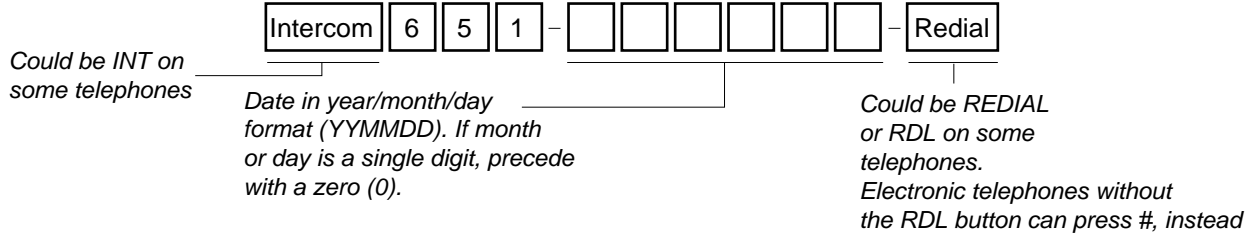

FIGURE 1-4—SETTING SYSTEM DATE
4.32 Anytime after initialization, the time and date can be set. This is not accomplished from the programming station, but rather from the digital or electronic telephone connected to Port 00 (usually station number 200). Refer to Figures 1-4 for the date, 1-5 for the system time, and 1-6 for the day of the week (Monday, Tuesday, etc.).